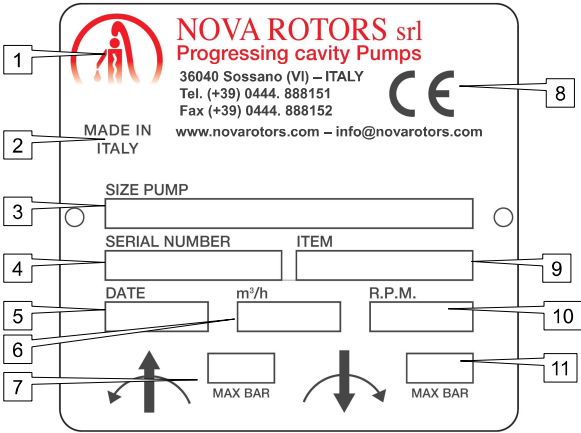

Fig.4 – Data plate for standard pump
- for standard pumps (Fig.4);
The pump is identified with the following code number, corresponding to the "SIZE PUMP" section on the data plate (3 - Fig.4 and Fig.2):